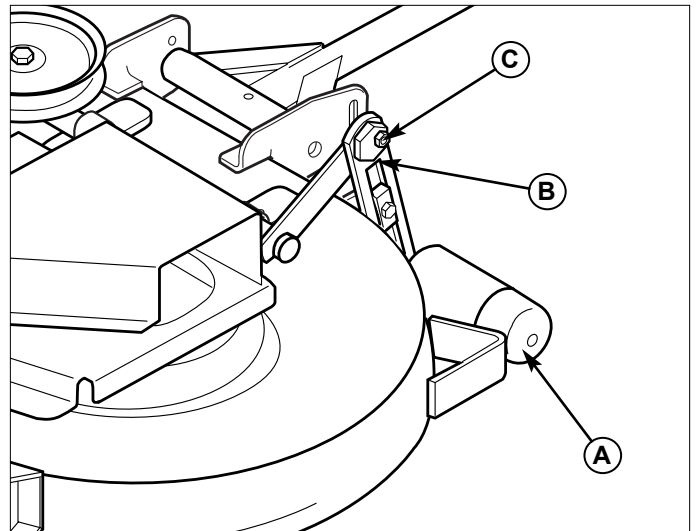

Figure 39. Deck Roller Adjustment
First place the cutting height adjustment in the 1-3/4" position. See figure 39. Loosen the outside nut (C) then turn the eccentric nut (B) to raise or lower the roller bar. There should be approximately 1/4" of ground clearance in the lowest cutting position. This clearance will increase as the height of cut increases.